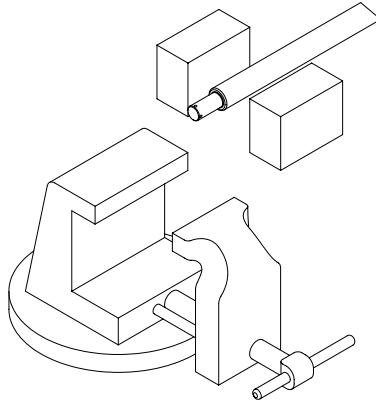

Figure 4-7, Cylinder Shaft
5. Clamp the rod assembly in a soft jawed vise on the wrench flats, not on the rod surface. If the rod does not have wrench flats use two pieces of wood on both sides of the rod to prevent scarring. (Figure 4-7)